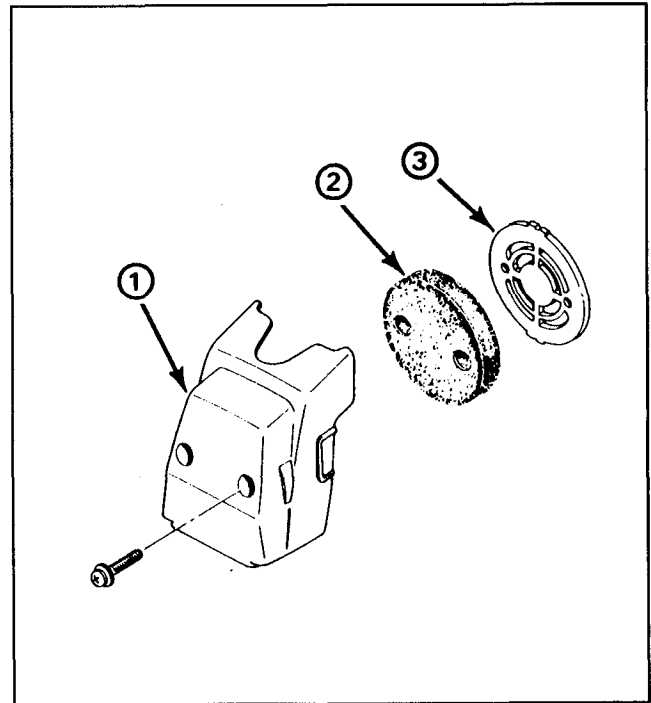

Figure 17
SERVICING AIR CLEANER (Fig. 17)
6. Reinstall air cleaner components as shown in Figure 17.
5. Reinstall air cleaner cover and air cleaner components to trimmer. See Servicing Air Cleaner, Figure 17 for component sequence.